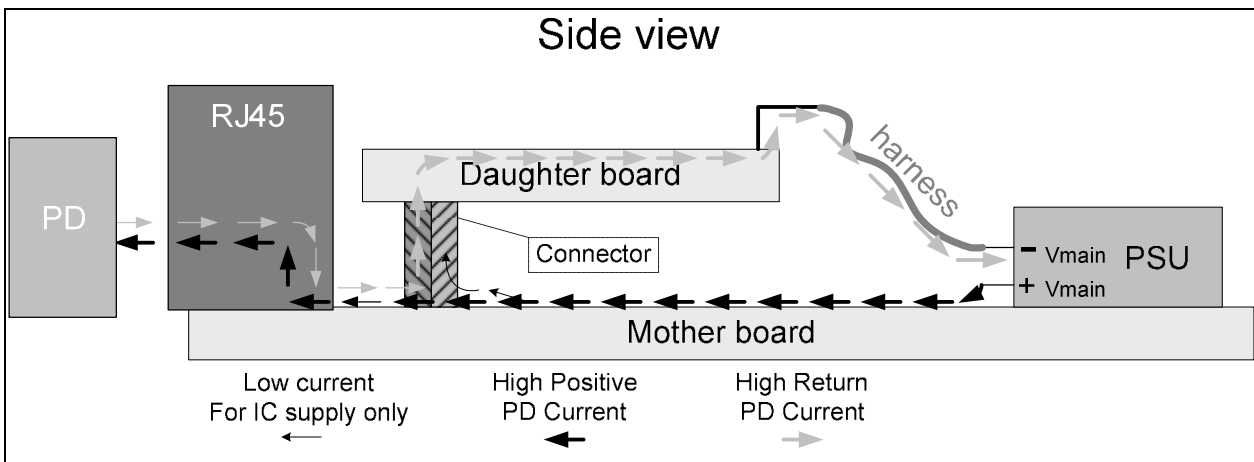

Figure 8: Component Identification for PD69104B Circuitry
- The power and return (ground) planes for the 48V supply must be designed to carry 35A continuous current, based on full 48-port capacity. Minimize DC power losses on this plane by using a wide copper land. When implementing the PoE circuitry on a daughter board, the hi current does not have to be routed through the daughter board but only the return path as can be noted from Figure 8.
See Figure 8